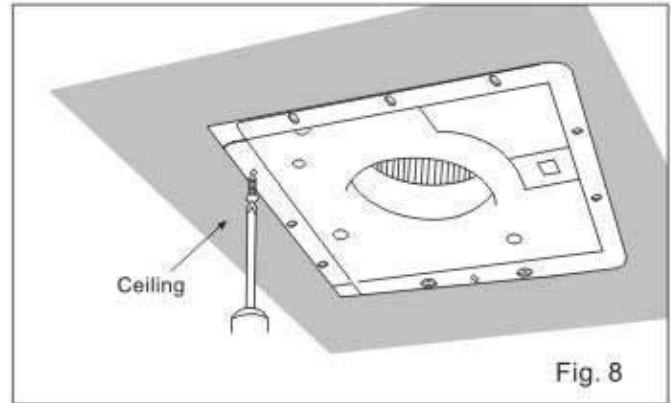

Fig. 8
- Secure fan body to ceiling joists using long screws in vertical direction. (Fig.8)